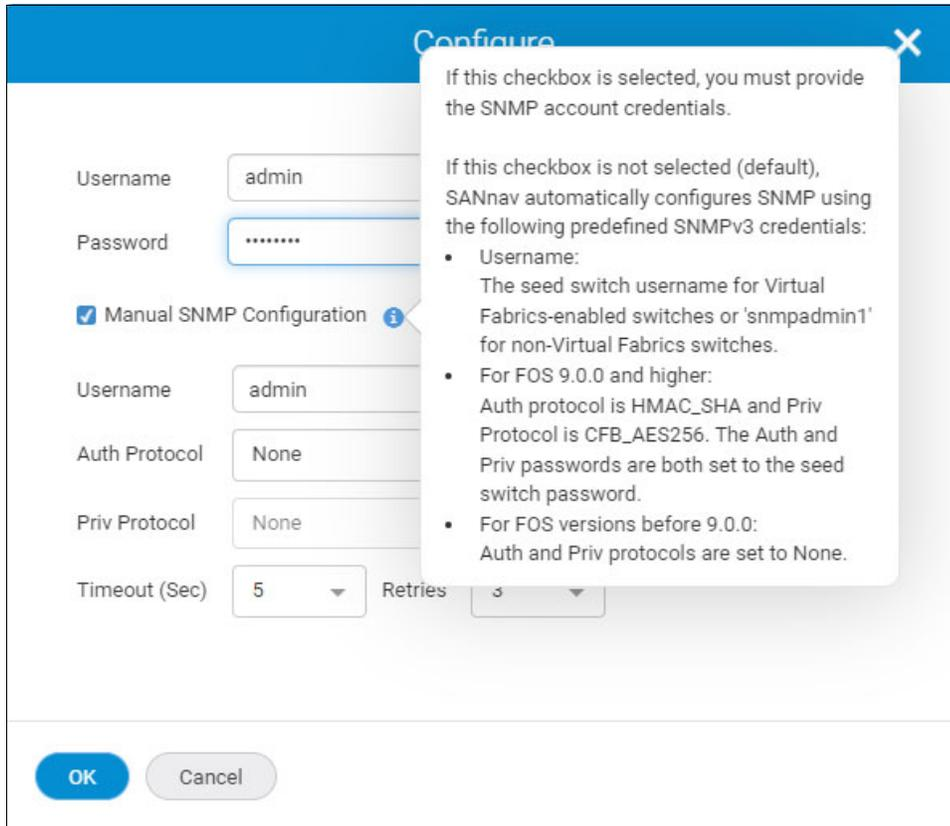

Figure 4-21 Login credentials
- Select the switches with incorrect credentials and click **Configure**, as shown in Figure 4-21 on page 77.